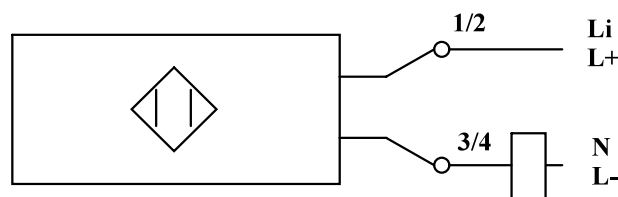

Fig. 2
- Wiring diagram see **Fig. 2** here below.